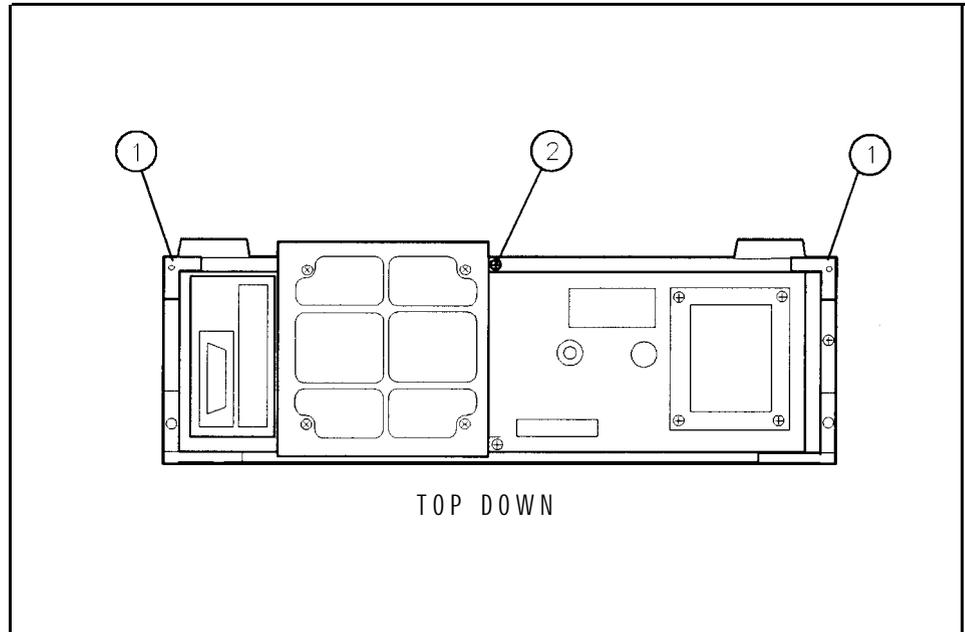

Figure 2-15. Removing the Bottom Cover
2. Using a screw driver, remove the two RF-section rear panel bumpers. See callout 1 in Figure 2-15.
3. Back out screw 2 (see Figure 2-15) and the cover unseats from the front frame. When the cover is clear of the rear frame, remove the cover by lifting up.